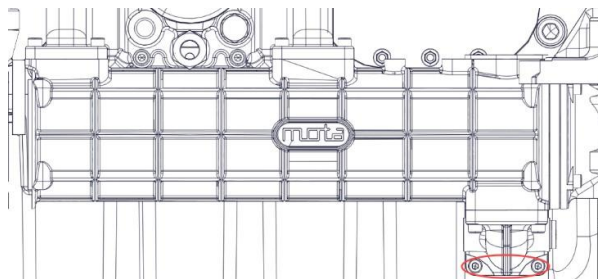

Figure 154-7.
4. Remove lower elbow by removing the eight mounting bolts and remove the O-rings from elbow, **DO NOT** discard O-rings (Figure 154-7).